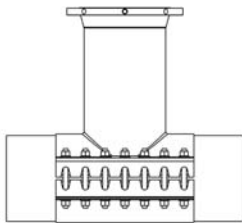

Figure 1
- 1) Inspect the IVP 250 valve body and valve cartridge to ensure no damage has occurred in transit (see figure 1 showing valve body mounted on pipe).